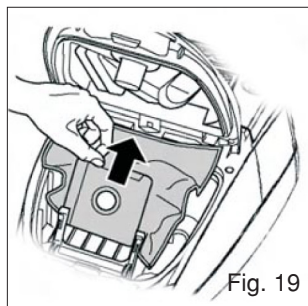

Fig. 19
- 3) Pull the dust filter bag up and out of the dust filter holder (Fig. 19)